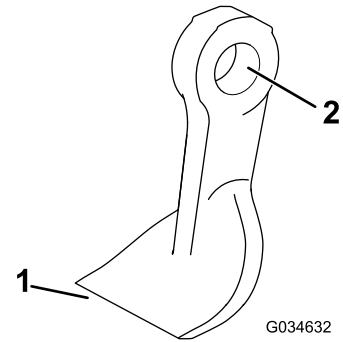

Figure 77
4. Inspect each blade for damage paying particular attention to the fasteners, cutting edge, and installation hole (Figure 77). Replace all damaged blades and fasteners.